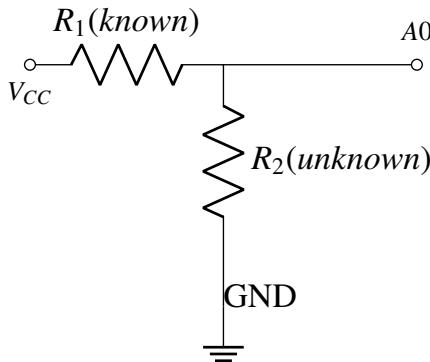

Fig. 10.1: Voltage Divider
1. Let R_1 be the known resistor and R_2 be the unknown resistor. Connect R_1 and R_2 in series such that R_1 is connected to GND and R_2 is connected to V_{cc} . Refer to Fig. 10.1
12. The Ohm meter in this manual works on the principle of the voltage divider shown in Fig. 10.1.